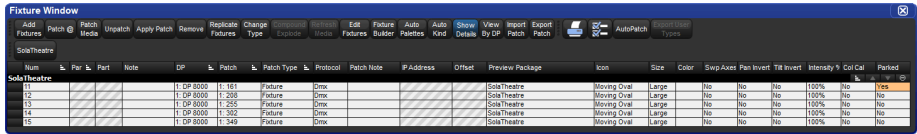

Figure 16.3. The Parked column of the Fixture window
- Open + Fixture : the Fixture window opens; see Figure 16.3, “The Parked column of the Fixture window”.